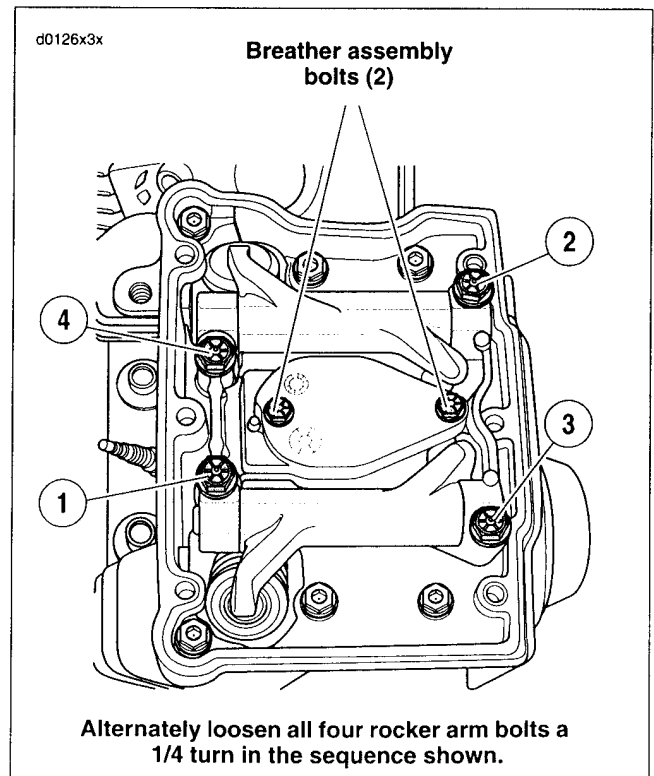

Figure 3-19. Breather Bolts and Rocker Arm Bolts (Rear Cylinder Shown)
4. See Figure 3-19. Remove two bolts to release breather assembly and filter element from the rocker arm support plate. See 3.20 BREATHER ASSEMBLY for inspection and repair information.
5. See Figure 3-19. Alternately loosen each of the four rocker arm support plate bolts just 1/4 turn. Continue turning the bolts in these increments until loose. Remove the rocker arm support plate bolts with flat washers.